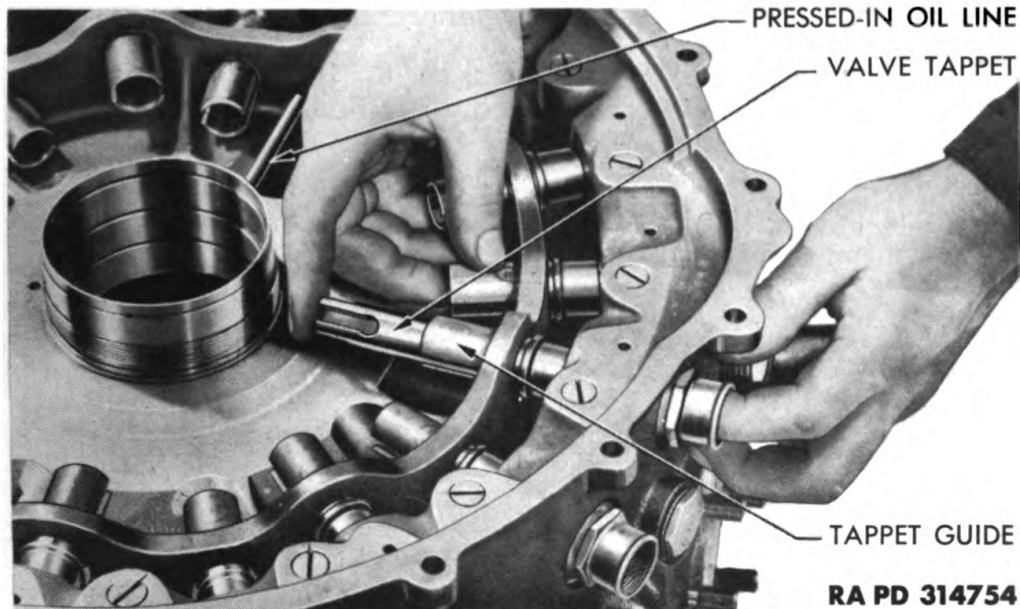

Figure 94 – Testing Valve Tappet Fit
c. Install Valve Tappets. Wrap clean cloth around a rod of suitable size, insert in tappet guide openings, and clean them out thoroughly (fig. 93). Make certain that each valve tappet is clean, and insert it in its matching guide (fig. 94). Tappets should fit so that